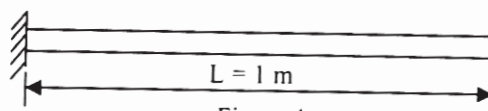

Figure 4
- Q9)** Estimate natural frequencies of axial vibrations of bar shown in figure 4. using both consistent and lumped mass matrices and compare the results. Bar is having uniform cross-section with cross-sectional area  $A = 30 \times 10^{-6} \text{ m}^2$ , length  $L = 1 \text{ m}$ , modulus of elasticity  $E = 2 \times 10^{11} \text{ N/m}^2$  and density  $\rho = 7800 \text{ kg/m}^3$ . Model the bar by using two elements. [16]